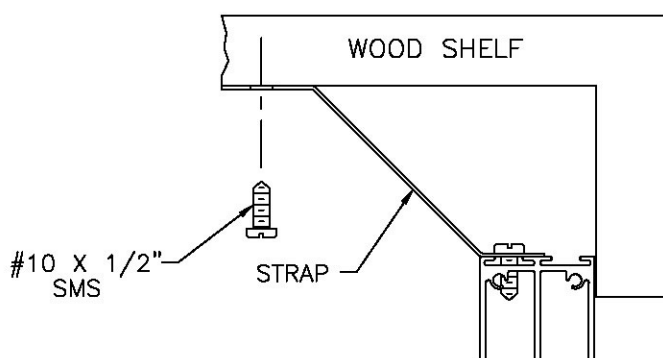

FIGURE 9A
- A. Bend Doorkit Straps as shown. See FIGURE 9A